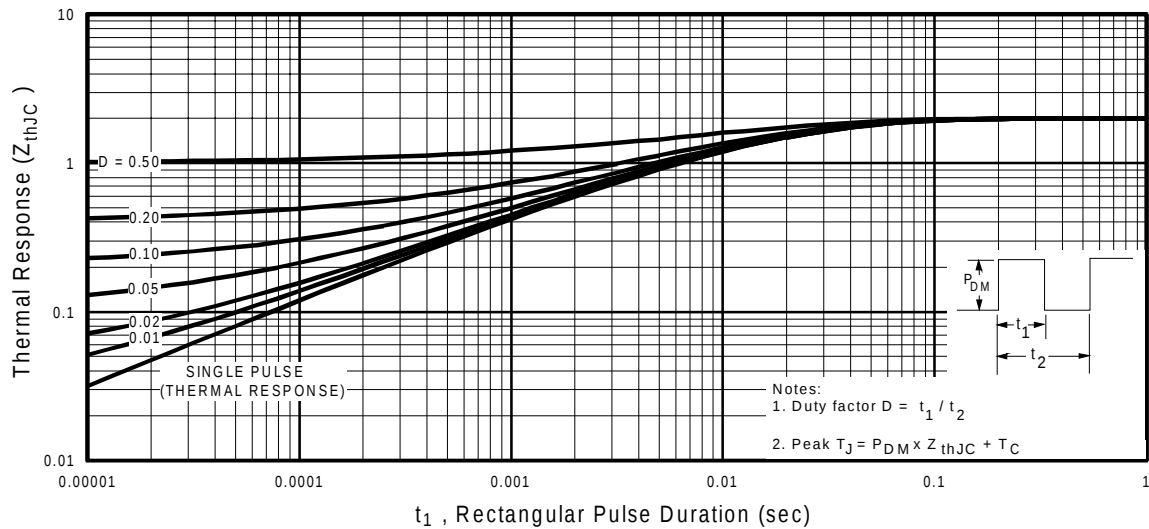

Fig 11. Maximum Effective Transient Thermal Impedance, Junction-to-Case
① Repetitive rating; pulse width limited by max. junction temperature. (See fig. 11)
④ Pulse width $\leq 300\mu s$; duty cycle $\leq 2\%$.
② Starting $T_J = 25^\circ\text{C}$, $L = 7.0mH$